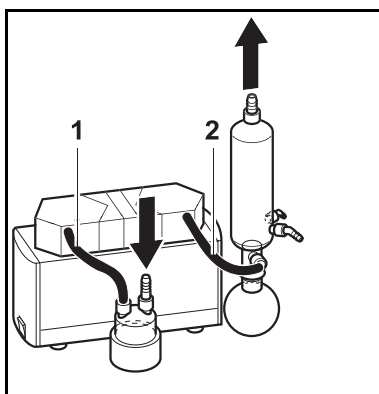

Fig. 15: Tubing system SH
2	Tubes (see fig. 15) ▪ Resistant to the medium employed ▪ Inside diameter 10 mm ▪ Length: (1) approx. 150 mm, (2) approx. 220 mm
4. Lay hoses for system (see fig. 15).